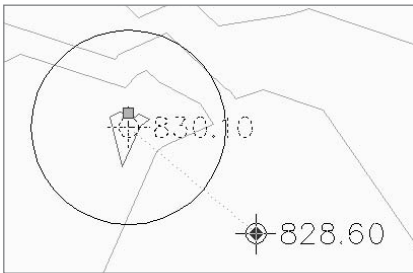

Figure 7.16
6. Click the diamond grip to relocate the label and begin dragging it as shown in Figure 7.16. Note that the label is updated on the fly as the label is dragged.